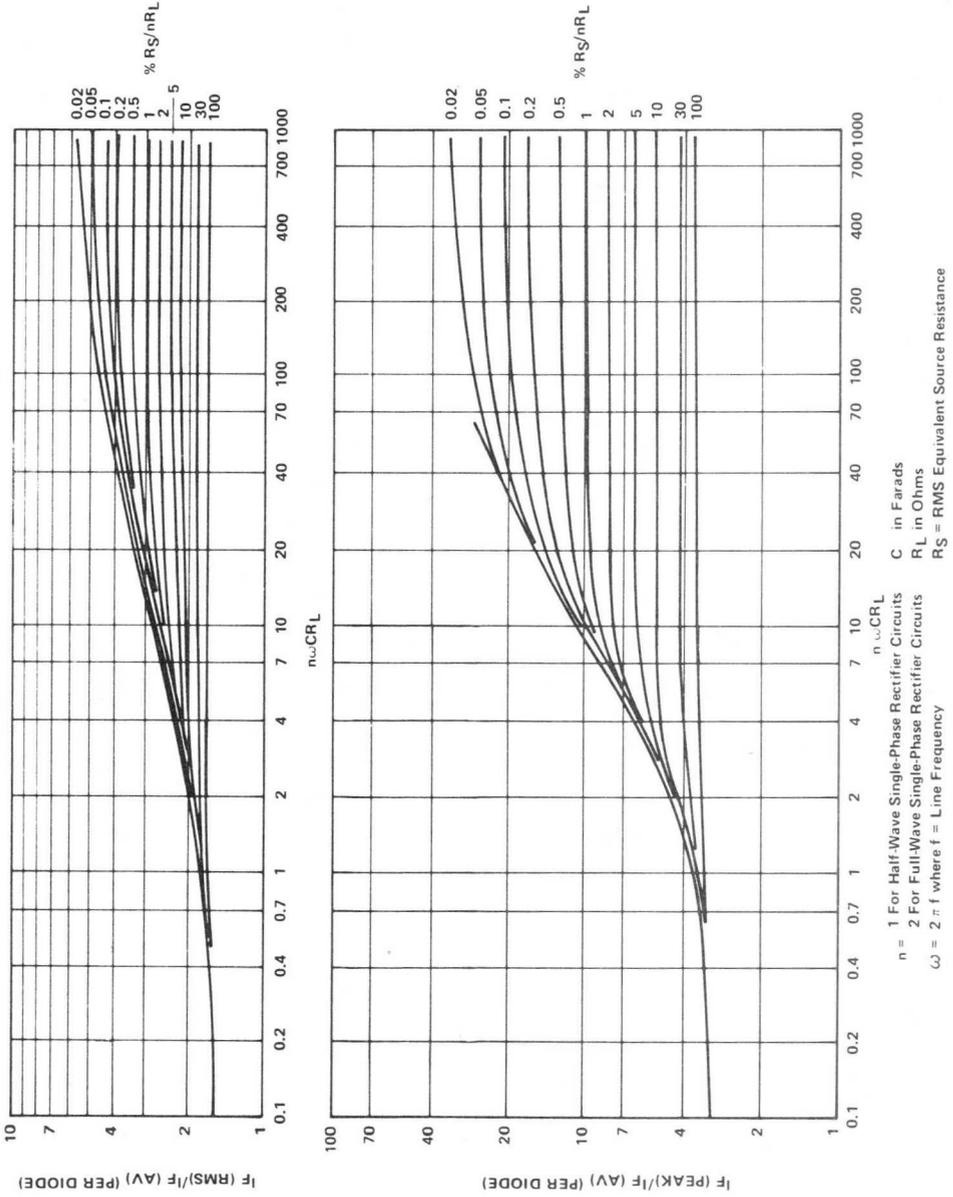

Figure 7.6. Relation of RMS and Peak to Average Diode Current in Capacitor Input Circuits
Figures 7.4 and 7.5 show the relation of dc output voltage developed (V_C) to the applied peak input voltage (V_{PK}) as a function of ωCR_L for half-wave and full-wave rectified signals respectively. For a full-wave rectified application, the voltage reduction is less than 10% for $\omega CR_L > 10$ and $R_S/R_L < 0.5\%$. As illustrated, the voltage reduction decreases as ωCR_L increases or the R_S/R_L ratio decreases. Minimizing the reduction rate, contrary to initial impressions, may prove to be detrimental to the optimum circuit design. Further reduction requires a reduction in the series to load resistance ratio (R_S/R_L) for any given ωCR_L . This will result in a higher peak-to-average current ratio through the rectifier diodes. (See Figure 7.6.) In addition and probably of more concern, this increases the surge current experienced by the rectifier diodes during turn-on of the supply. Realize the surge current is limited only by the series resistance R_S :
13. Determine the peak and RMS forward current to be experienced by the rectifier diodes from Figure 7.6.